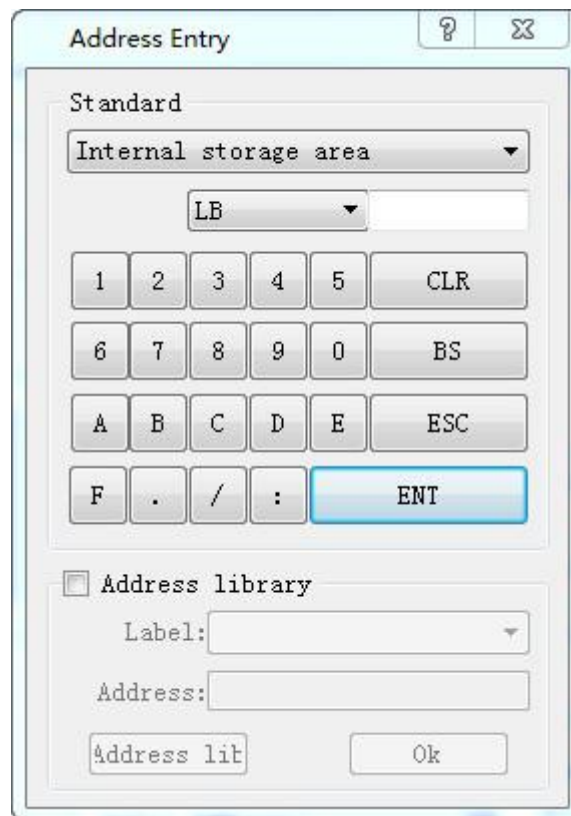

Figure 4-71 Input address
- ◆ Write Address: Click the Keyboard button icon after "Write Address" to enter the address. SKTOOL software will distribute corresponding address symbols according to different connected devices. For example, in FX-2N series of MITSUBISHI (Mitsubishi) PLC, X represents the address of input coil; Y represents that of the output coil; M that of the intermediate relay; C that of the counter (switch status display); T that of the timer (switch Status display); D that of the data register; C \* that of the counter (count value); T \* represents that of the timer (count value). Another example is the series of SIEMENS (Siemens) S7-200: I represents the input address; Q on behalf of the output address; M on behalf of the intermediate relay address; V on behalf of the data register address. As shown in Figure 4-71: